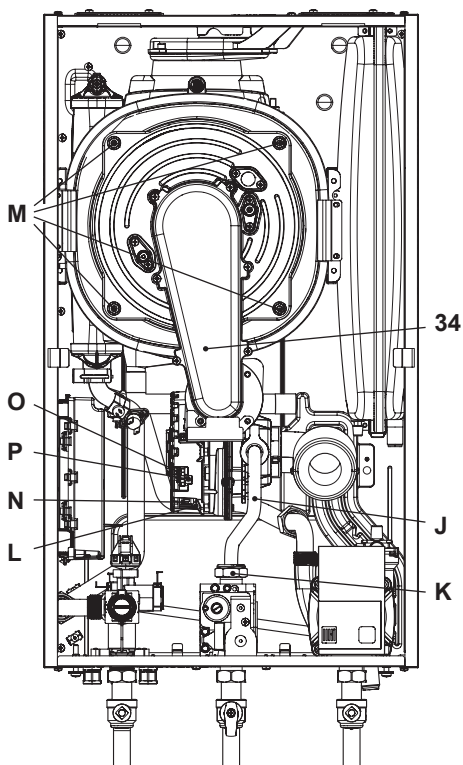

Fig. 10.9
Removing the fan burner unit 34 in Fig. 10.9.
- Insert a flat screwdriver in the connector recess **L** and lever towards the bottom, disconnect the connector at the same time **N** by pulling towards the front **N** (Fig. 10.9).
- Disconnect the fan connector **O** by pressing the plastic hook **P** positioned at the bottom part of the connector (Fig. 10.9).
- Unscrew screws **M** and remove the fan burner unit 34 (Fig. 10.9).